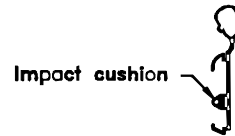

Fig 7
- Step 6:** Slide rubber impact cushion into retainer, see **fig. 7**